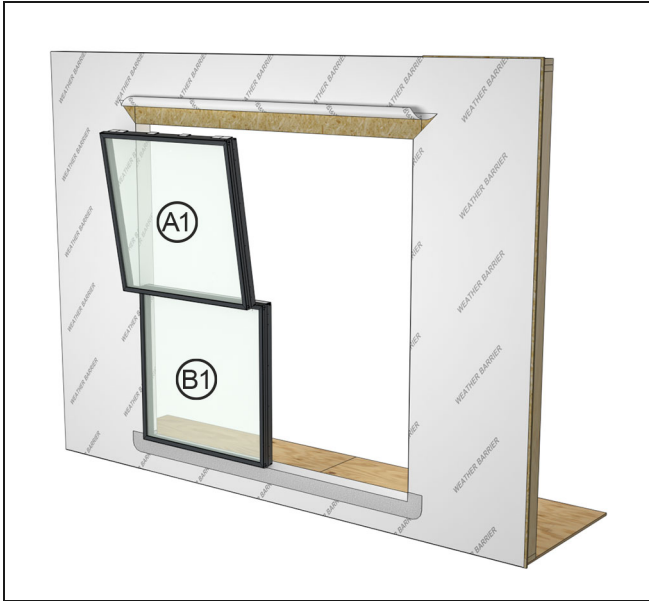

Figure 39
8. Mull the second unit (A1) to the first (B1). For standard tight mulls, follow procedures found in the mull instructions. For structural or flat steel mulls, refer to the appropriate procedures within this instruction. See Figure 39.